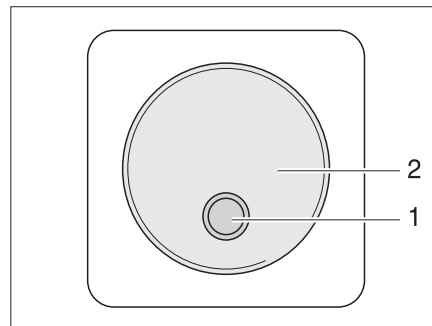

Fig. 218 External switch
- II "Remo." = unit can be switched on and off at the external switch (Fig. 218,1).
The external switch for the converter (Fig. 218) is located in the interior of the vehicle, for example in the entrance area. The switch is labeled with "Converter". The LED (Fig. 218,1) indicates the operating state of the converter.